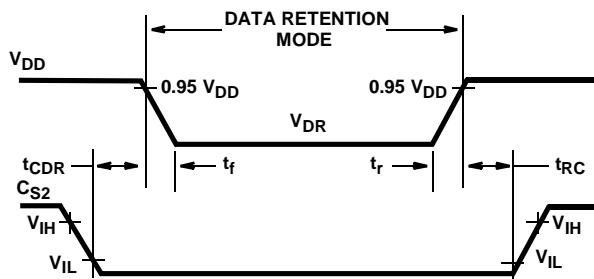

FIGURE 3. LOW  $V_{DD}$  DATA RETENTION TIME WAVEFORMS
**Data Retention Specifications** At  $T_A = -40$  to  $+85^\circ\text{C}$ , see Figure 3.